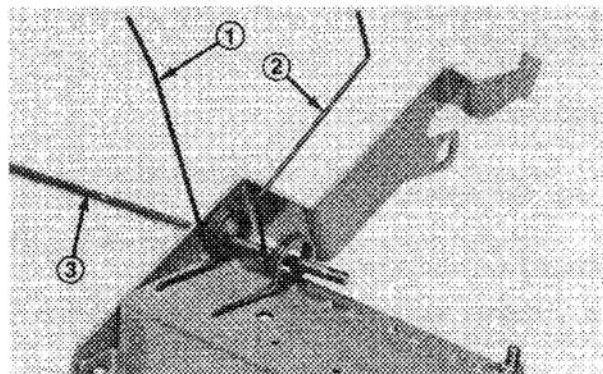
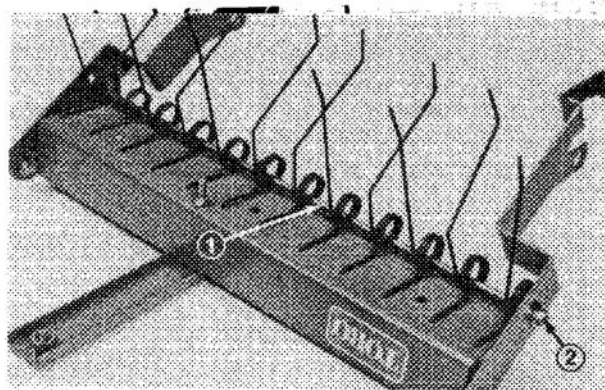

Figure 2
Figure 3
3. Insert thatching springs into mounting holes in main frame, starting at the end and alternating straight leg springs with bent leg springs (Fig. 2). Two middle springs should have bent legs (Fig. 3).
4. Slide spring guide rod thru side frames and springs, securing each end with a washer and locknut (Fig. 2 & 3).